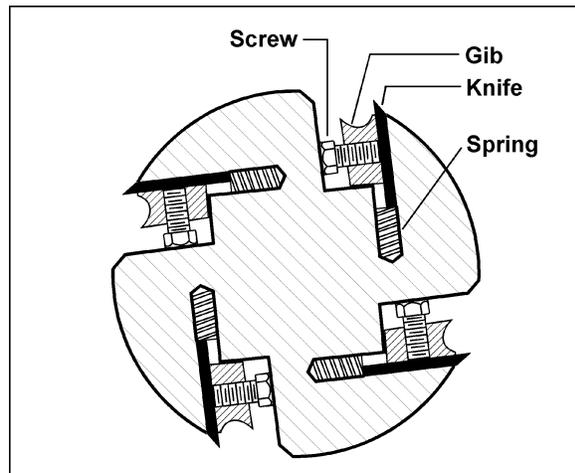

Figure 8 – Model 201 only
2. To remove a knife, loosen the eight screws along its gib. See Figure 8.